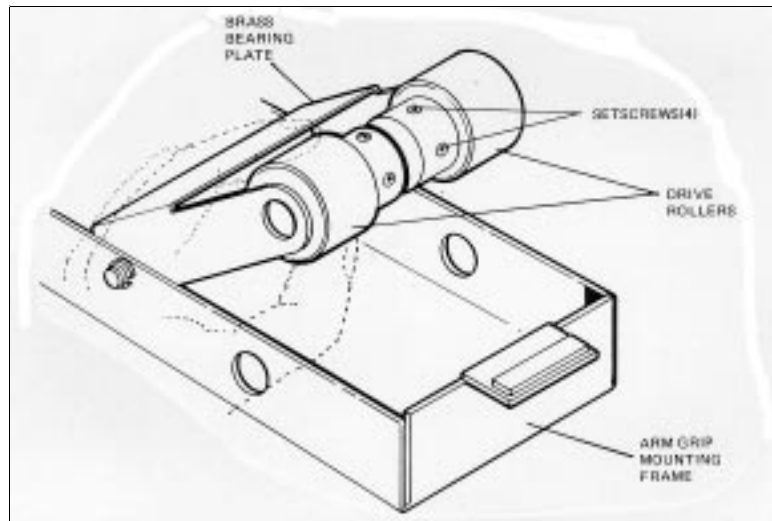

Figure 5-3. Removing the Drive Rollers
- 4) Inside the carriage frame, loosen the four set-screws holding the height adjusting knob shaft to the drive rollers (figure 5-3). Pull the knob and shaft free of the rollers.
- 5) Pivot roller assembly as shown in figure 5-3 and remove the drive rollers from the brass bearing plate.